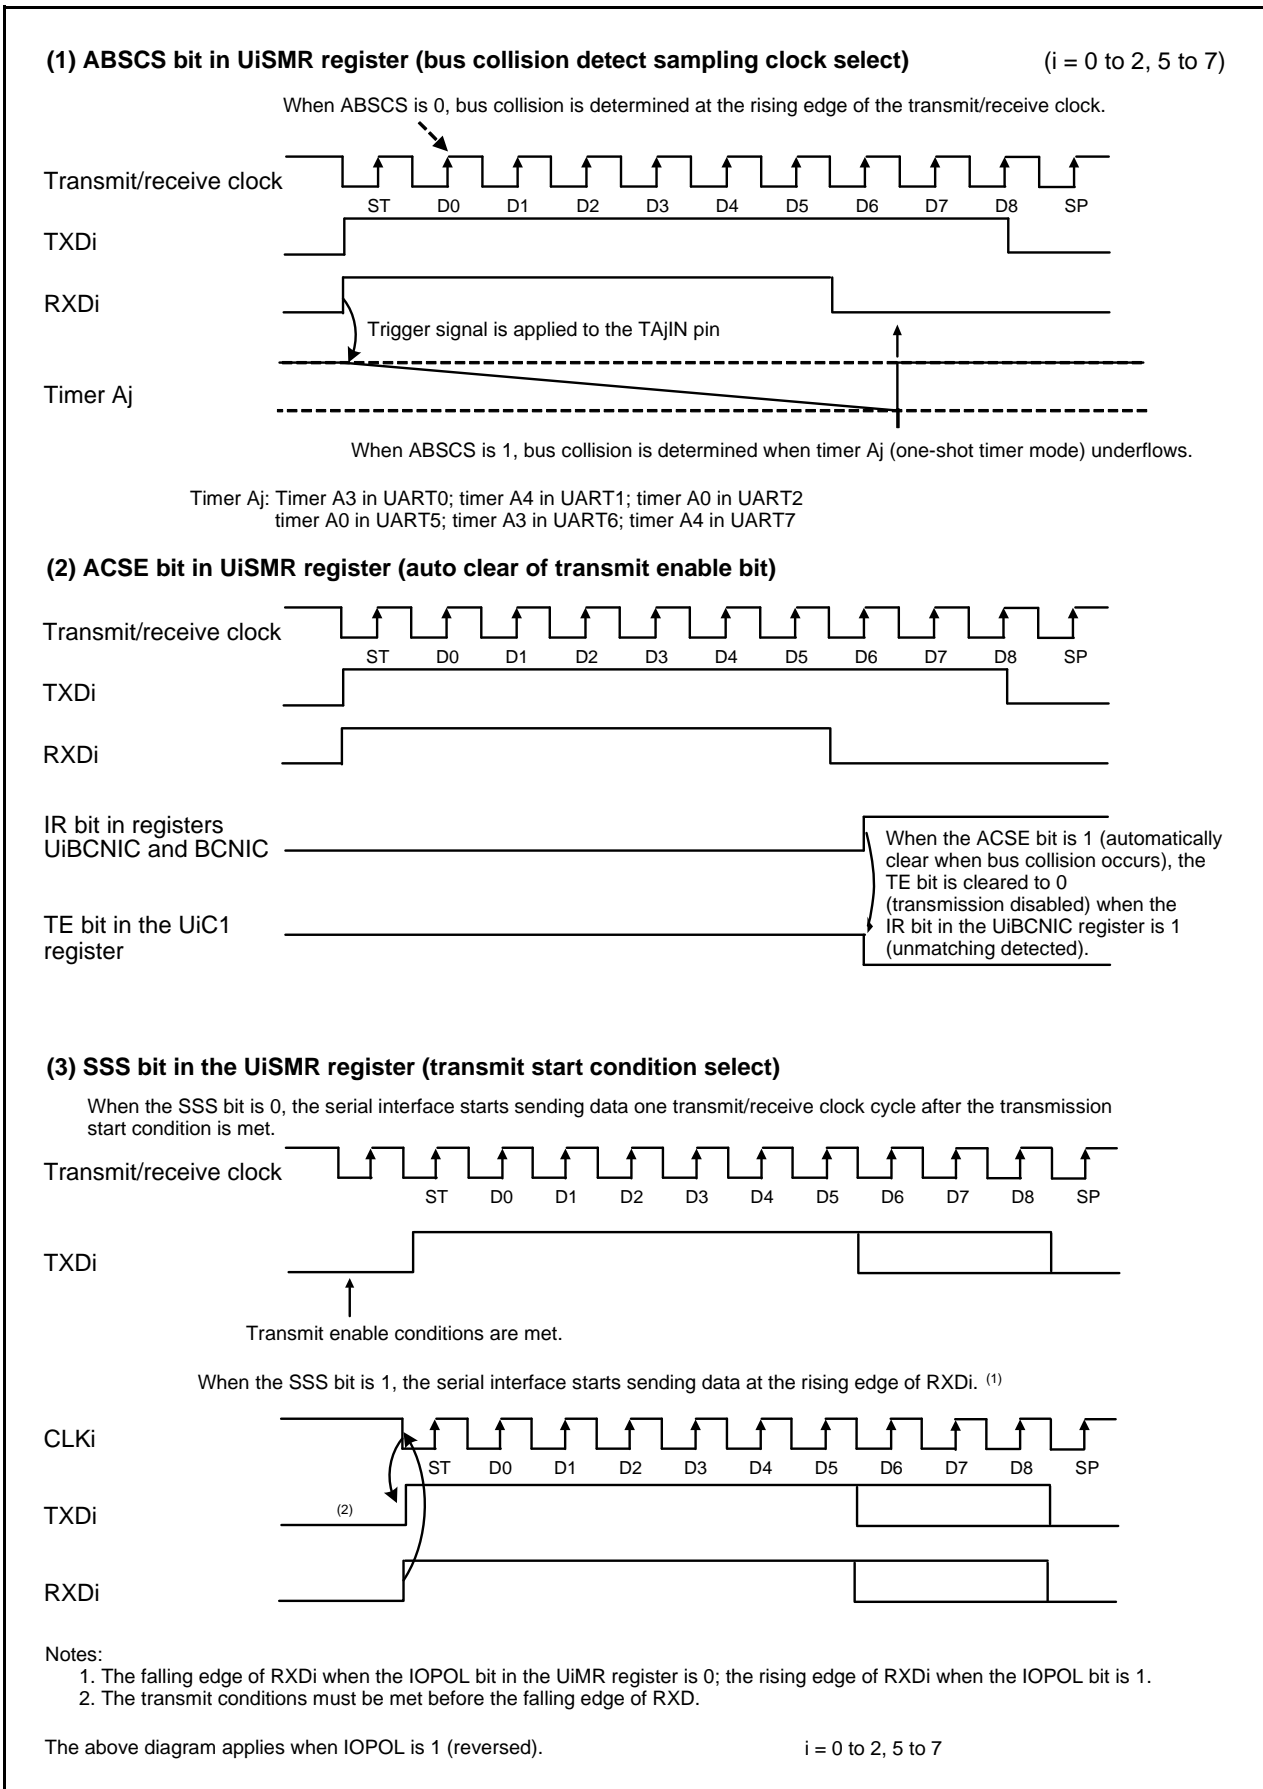

Figure 23.26 Bus Collision Detect Function-Related Bits
Table 23.25 lists the Registers Used and Settings in IE Mode (1). Figure 23.26 shows the Bus Collision Detect Function-Related Bits.